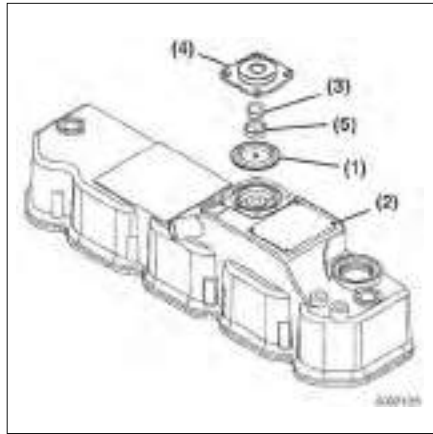

Figure5-19
4TNV98 engines use a crankcase breather system that has a spring-backed diaphragm (Figure5-19, (1)) in the valve cover (Figure5-19, (2)). When the crankcase pressure reaches a predetermined value, the diaphragm opens a passage that allows crankcase fumes to be routed to the intake manifold.
To inspect the diaphragm and spring (Figure5-19, (3)):
1. Remove the bolts retaining the diaphragm cover (Figure5-19, (4)).
2. Remove the diaphragm cover, spring, diaphragm plate (Figure5-19, (5)) and diaphragm.